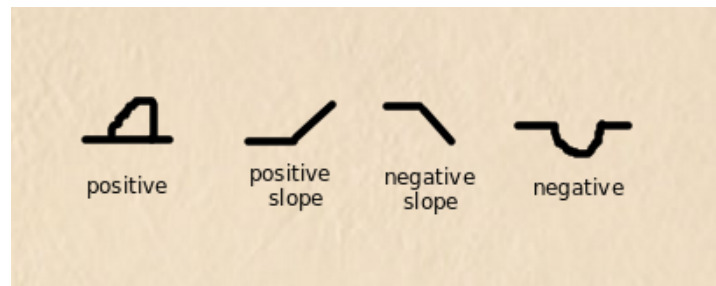

Figure 17: With ray tracing, laser scanners is able to recognize different types of obstacles.
**Why ray tracing** in obstacle layer and voxel layer? Ray tracing is best known for rendering realistic 3D graphics, so it might be confusing why it is used in dealing with obstacles. One big reason is that obstacles of different type can be detected by robot's sensors. Take a look at figure 17. In theory, we are also able to know if an obstacle is rigid or soft (e.g. grass)6.